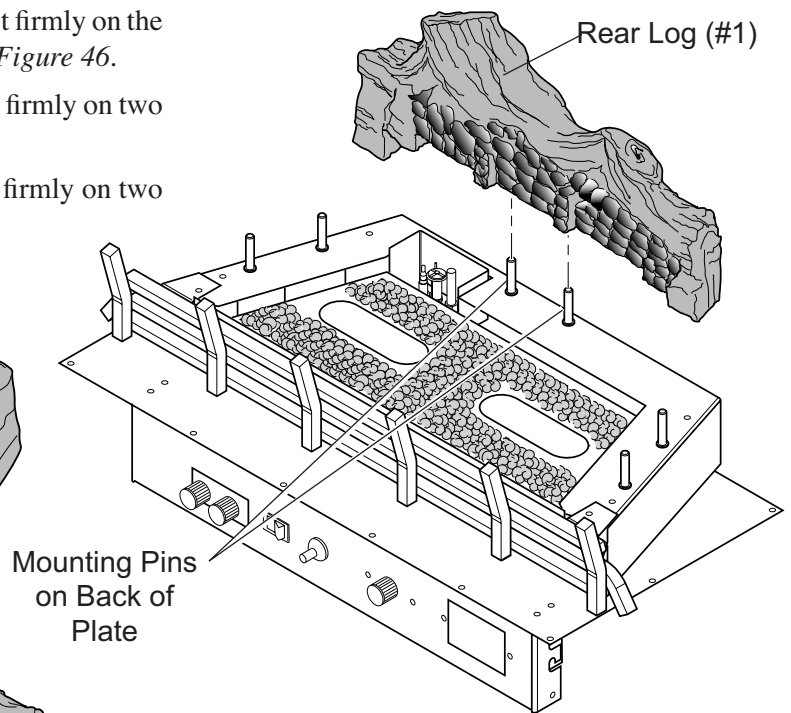

Figure 46 - Installing Rear Log (#1)
1. Place rear log (#1) on grate assembly. Log should rest firmly on the two log mounting pins at the back of the plate. *See Figure 46.*